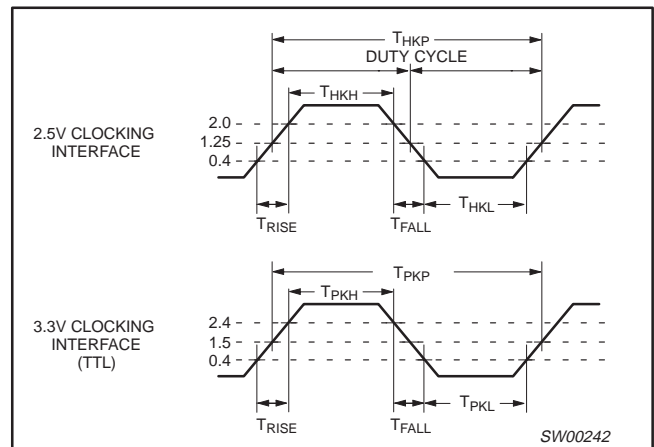

Figure 4. 2.5V/3.3V clock waveforms
- T_{HKH} is measured at 2.0 V for 2.5 V outputs, 2.4 V for 3.3 V outputs as shown in Figure 4.
- T_{HKL} is measured at 0.4 V for all outputs as shown in Figure 4.